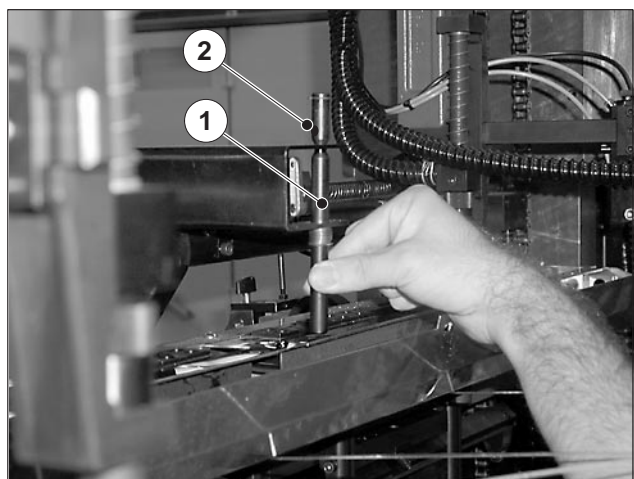

Fig. 46 Actuating bar
4. Raise the actuating bar of the limit switch (Fig. 46/1) and push, for example, an Allen key into the borehole (Fig. 46/2). The actuating bar remains locked in its upper position.